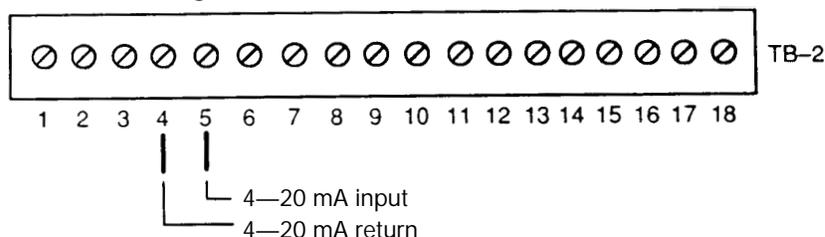

FIGURE 4
3. For external set point connection (4-20mA) connect two wires to terminals 5 and 4 of TB-2. Terminal 5 is positive (current flows into terminal 5) and terminal 4 is negative. (See Figure 4)